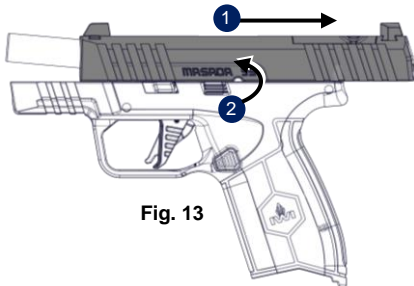
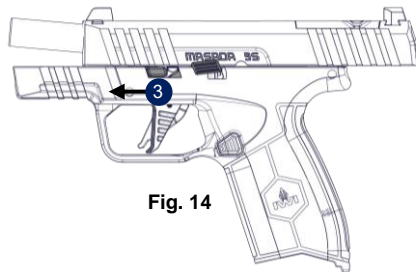

Fig. 13
Fig. 14
1. While pulling the slide rearward (1) (Fig. 13), simultaneously press upward on the slide catch lever to lock the slide in rear position (2) (Fig. 13). Push the sear disconnector forward (3) (Fig. 14).